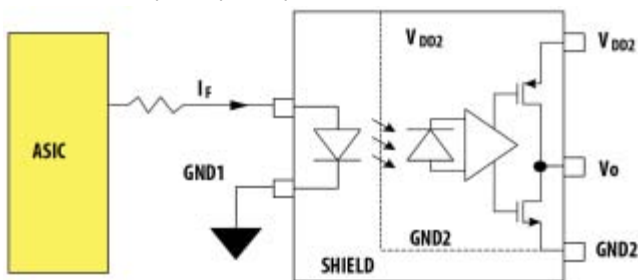

Figure 1: shows that ACPL-M61L can be directly driven by the ASIC without needing external buffer
- Low LED forward current is needed so that it can be directly driven by most microcontrollers or ASICs (as shown in Figure 1), without needing external buffers.